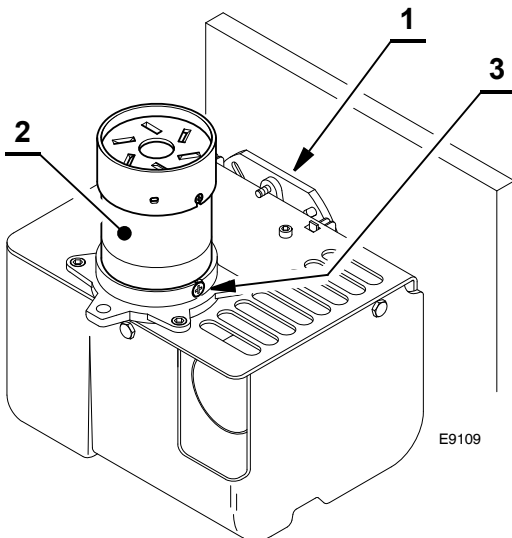

Fig. 21
- Hook the burner to the flange (1) (Fig. 21), by removing the blast tube (2) after losing the fixing screws (3).